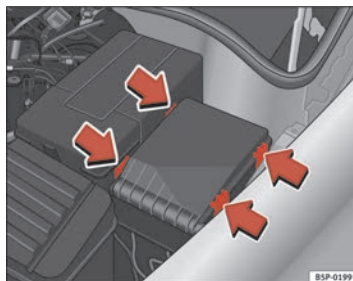

Fig. 182 Fuse box cover in engine compartment
- Prise off the fuse cover in the engine compartment by pressing the tabs towards the centre of the cover ⇒ page 267, fig. 182.